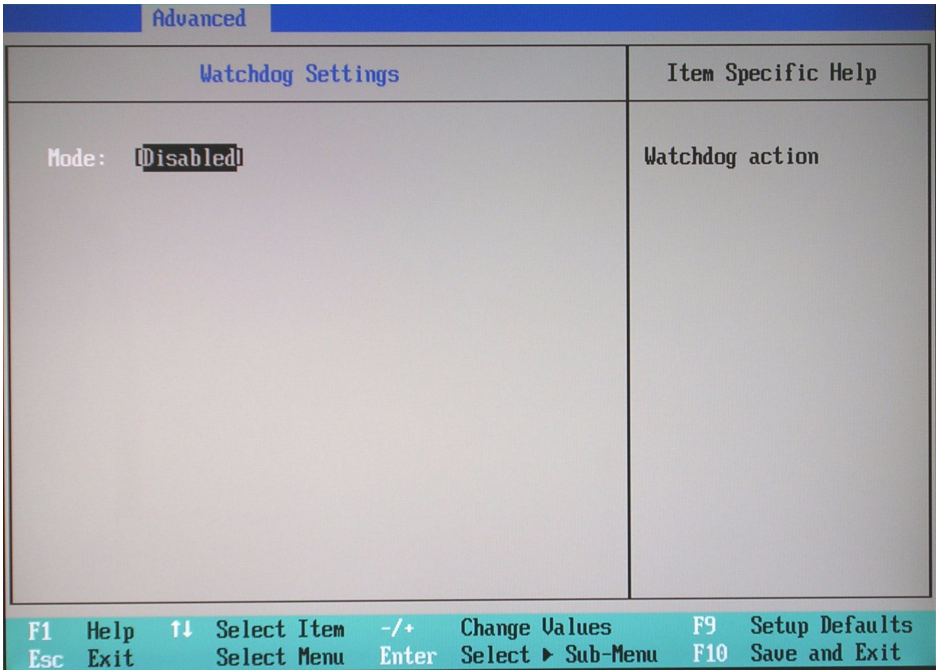

Figure 8-118 BIOS Advanced Watchdog Settings
Watchdog Settings	Figure 8-118 on page 8-118
- 21.) Set the parameters in the **Watchdog Settings** as shown above in Figure 8-118.